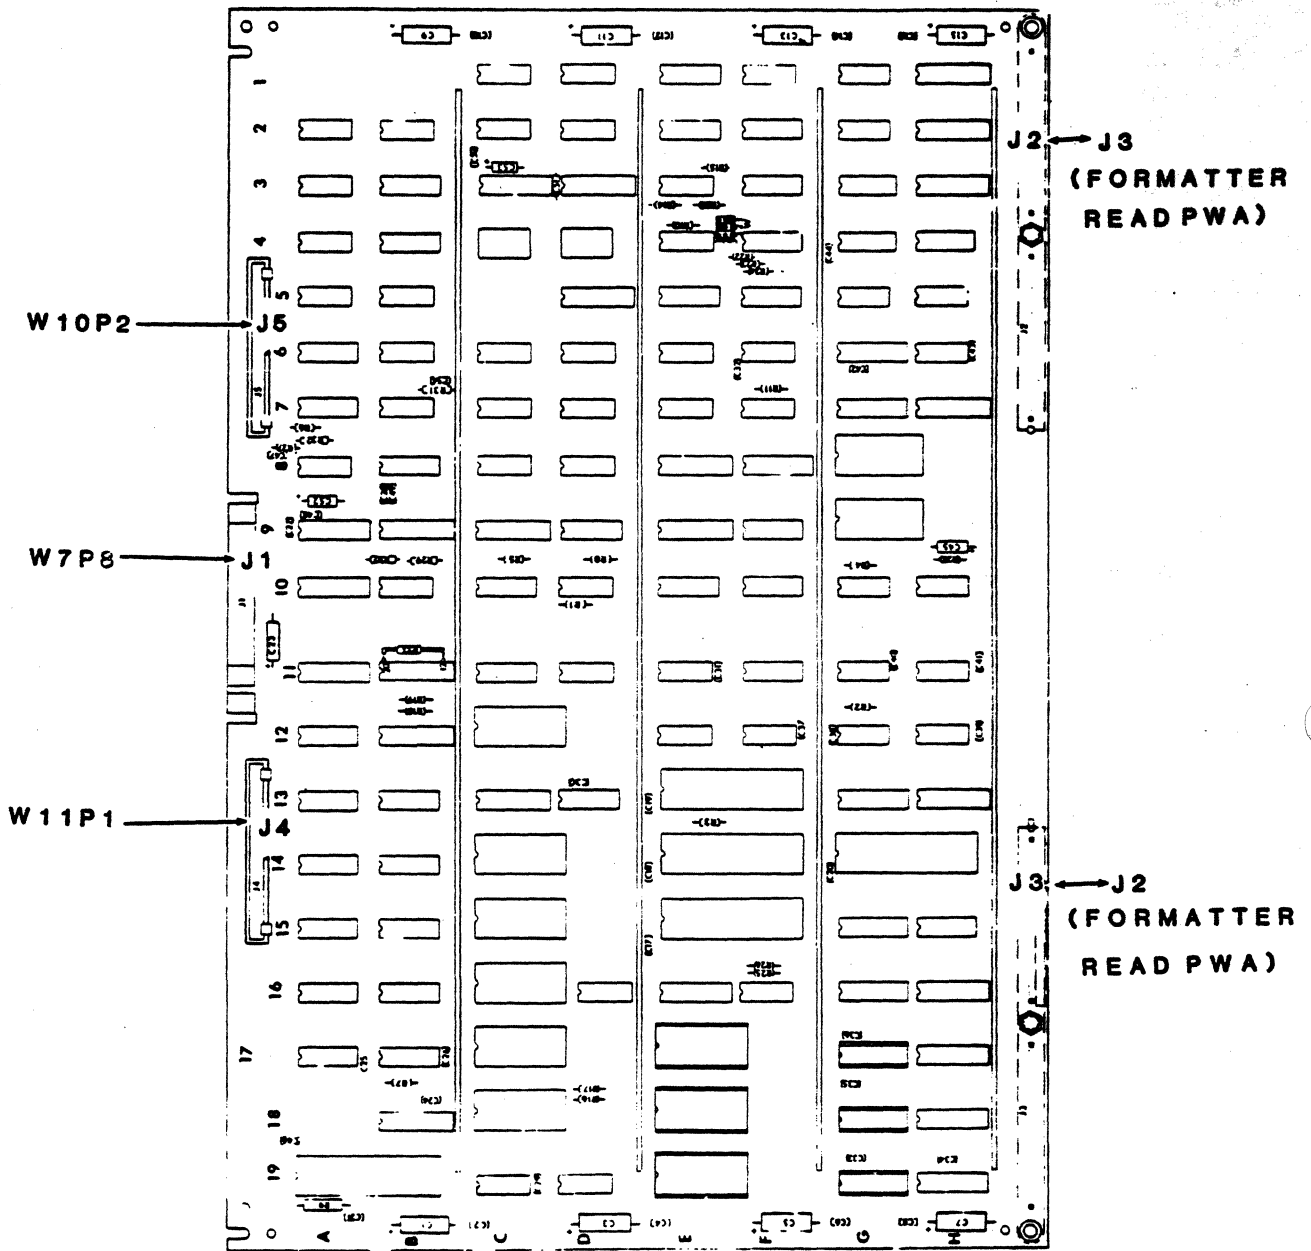

Figure 6-36. Formatter Write PWA Connectors
3. Loosen the two thumb screws (figure 6-34) to separate the formatter read PWA from the formatter write PWA. Avoid undue stress on the on-board pin connectors J2 and J3 by loosening the thumb screws alternately and separating the PWAs as the screws are loosened. See figure 6-36.
4. Remove connectors W10P2 and W11P1 from the PWA (figure 6-36).